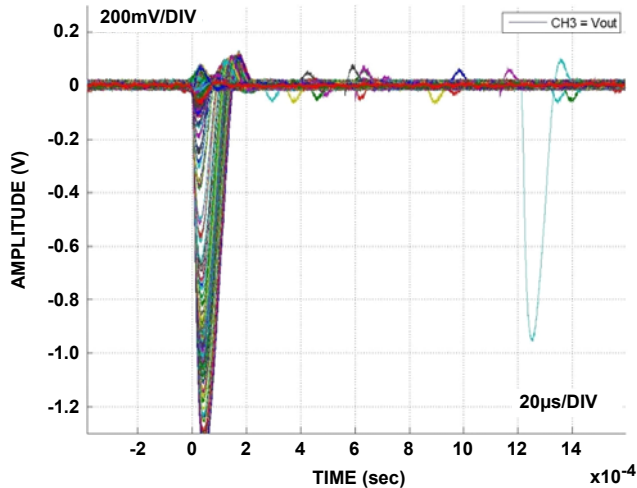
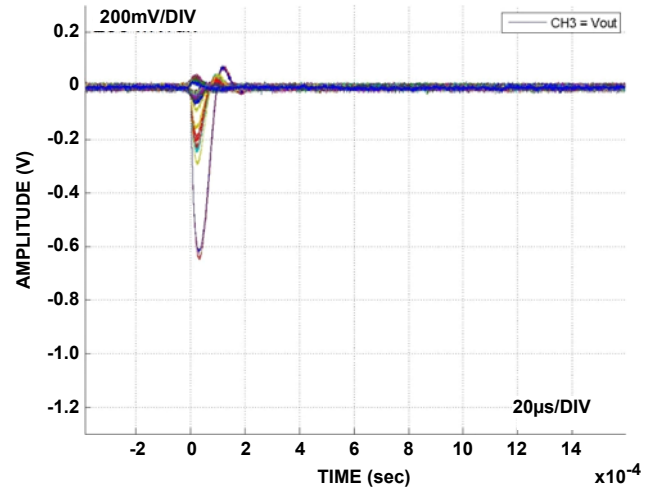

FIGURE 22. COMPOSITE SET PLOT FOR ISL71090SEH75 AT LET 28
FIGURE 23. COMPOSITE SET PLOT FOR ISL71090SEH75 AT LET 2.7
Figure 22 shows a composite of large negative going SET for DUT1 run 314. The worst of these SET bottom out at about -1.4V deviation. These are about 175 μ s at return to cross nominal before overshooting about 100mV. Certainly not all of the SET are this severe, but a good number are. Even at LET of 2.7MeV \cdot cm²/mg (DUT1 run 114) Figure 23 shows a few SET to
-600mV. Clearly the part is sensitive to lower LET ions. Comparing Figures 22 and 24 shows the impact of going to larger capacitors (C_{OUT} from 1 μ F to 10 μ F and C_{COMP} from 1nF to 10nF). The change reduces worst SET for LET 27 deviations from -1.4V to 0.18V, though the recovery time is considerably stretched out.
The SET exhibited by the ISL71090SEH50 fall into two basic categories; fast negative spike and slow negative ramp and recovery similar to the 7.5V reference. The fast spikes can be as large as 800mV for LET 56 and $V_{IN} = 30V$. Under the same conditions the slow (20 μ s) negative ramp can reach 300mV. The disturbances can take significantly over 160 μ s to recover. Even at LET = 8.5MeV \cdot cm²/mg (Figures 23 and 24), there are SET of approximately 200mV.